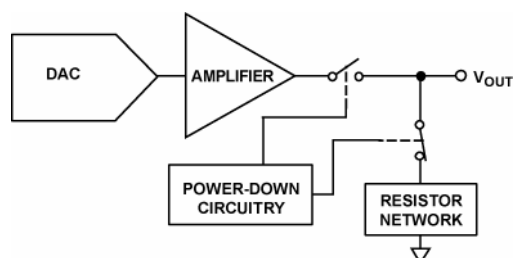

Figure 9. Output Stage During Power-Down
- When both Bit DB9 and Bit DB8, in the control register are set to 0, the part works normally with its normal power consumption of **TBD** at 5 V. However, for the three power-down modes, the supply current falls to **TBD** at 5 V (**TBD** at 3 V). Not only does the supply current fall, but the output stage is also internally switched from the output of the DAC to a resistor network of known values. This has the advantage that the output impedance of the part is known while the part is in power-down mode. There are three different options. The output is connected internally to GND through either a 1 k Ω or a 100 k Ω resistor, or it is left open-circuited (three-state). The output stage is illustrated in Figure 9.